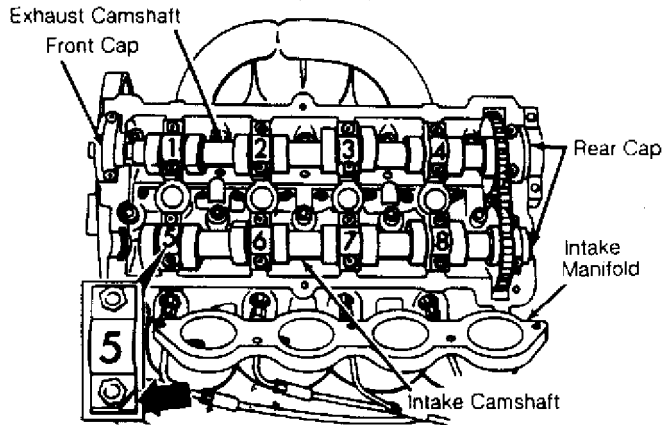

Fig. 12: Identifying Camshaft Bearing Caps (2.0L)
2) Remove intake camshaft bearing caps No. 5, 7 and rear cap evenly a little at a time. See Fig. 12. Loosen remaining intake camshaft bearing caps evenly a little at a time. Remove exhaust camshaft bearing caps No. 1, 3, front cap and rear cap evenly a little at a time. Loosen remaining exhaust camshaft bearing caps evenly a little at a time. Remove camshaft bearing caps. Lift both camshafts out of cylinder head together.
2) Install intake camshaft bearing caps No. 6 and 8 and tighten evenly a little at a time. See Fig. 12. Repeat procedure for remaining intake camshaft bearing caps. Install exhaust camshaft bearing caps No. 2 and 4. Tighten evenly a little at a time. Repeat procedure for remaining exhaust camshaft bearing caps. To complete installation, reverse removal procedure. Before starting engine, allow 30 minutes for cam followers to bleed down.